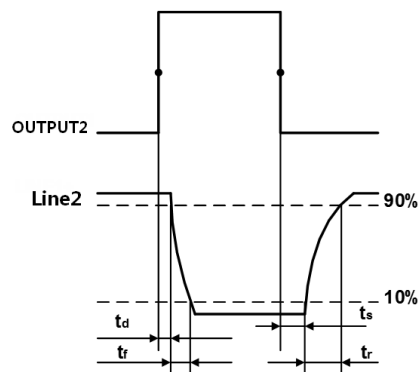

Figure 7-12 Line2 output circuit parameters
- Rising time delay = t_r+t_d : $<20\mu\text{s}$ ($0^{\circ}\text{C}\sim 45^{\circ}\text{C}$) (parameter description as shown in Figure 7-12)
- Falling time delay = t_s+t_f : $<20\mu\text{s}$ ($0^{\circ}\text{C}\sim 45^{\circ}\text{C}$) (parameter description as shown in Figure 7-12)